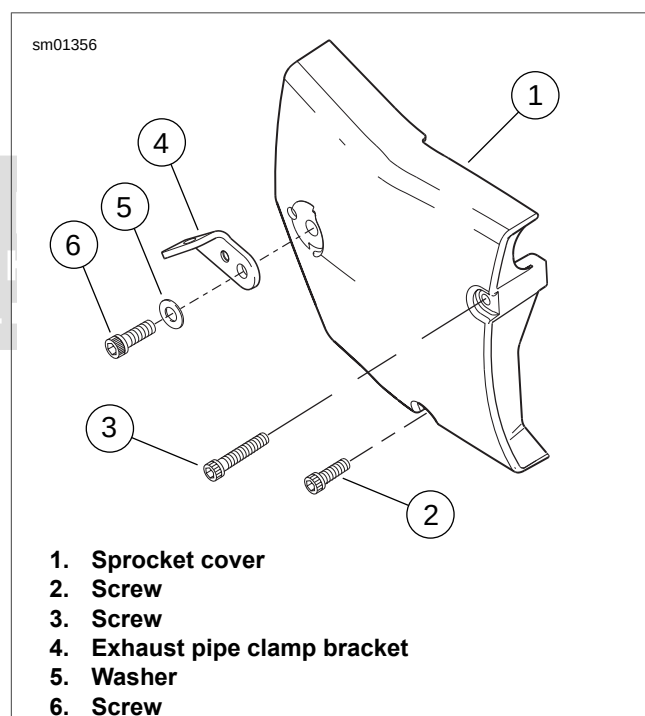
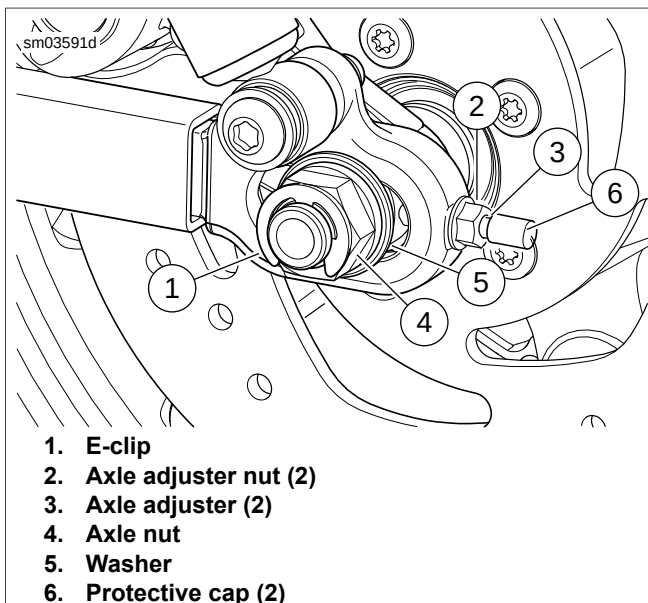

Figure 5-37. Sprocket Cover: XL Models
Figure 5-38. Drive Belt Adjustment: XL Models
3. See Figure 5-37. Remove screw (6), washer (5) and exhaust pipe clamp bracket (4).
5. See Figure 5-38. Remove E-clip (1). Discard E-clip.
6. Loosen rear axle nut (4).
7. Turn the axle adjuster nut (2) on each side of rear fork an equal number of turns counterclockwise to decrease belt tension.
See Figure 5-37. Short screw (2) goes in bottom hole. Long screw (3) goes in top hole. Do not tighten screws.
5. Install sprocket cover (1). Secure with two screws.
6. Install exhaust pipe clamp bracket (4), washer (5) and screw (6).
12. See Figure 5-38. Tighten rear axle nut (4) to 95-105 ft-lbs (129-142 Nm).
13. Install **new** E-clip (1).